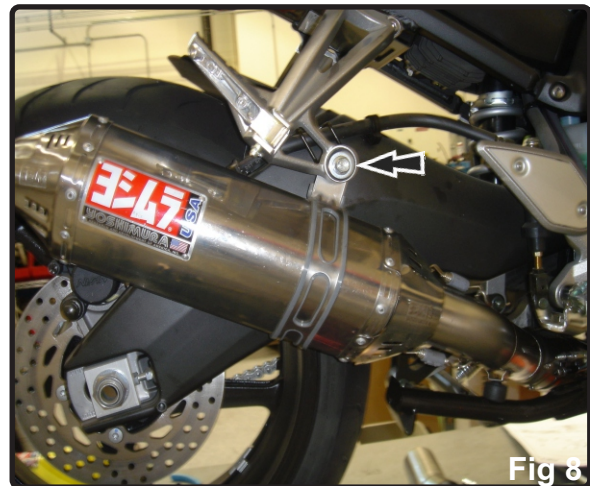

Fig 8
11. Install Yoshimura muffler and tailpipe onto the stock header and using the stock and supplied hardware, Torque the muffler mounting bolt to 2.5kg-m (18 lb-ft) (see Fig 8).